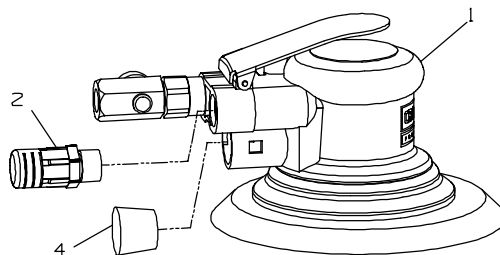

Figure 1
Standard Equipment (Figure 1)
This Random Orbital Sander comes with the Muffler (2) and Plug (4) installed. Before using optional equipment, one or all of these parts must be removed. See Figure 1 and instructions below .
Optional Equipment (Figures 1, 2 and 3)